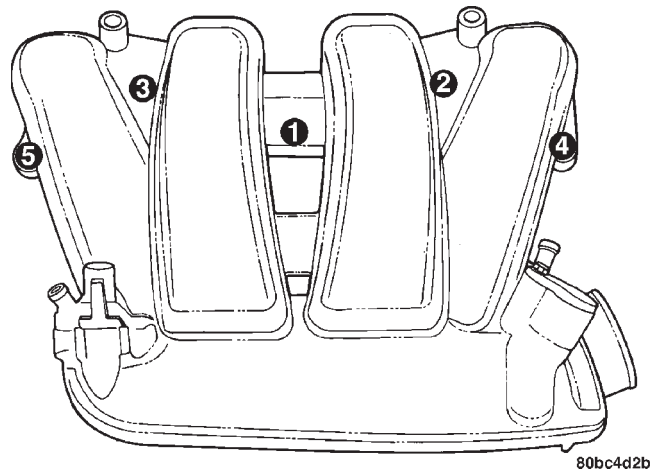

Fig. 32 Intake Manifold Tightening Sequence
- (1) Install intake manifold onto cylinder head and tighten fasteners to 12 N·m (105 in. lbs.) in sequence shown in (Fig. 32).